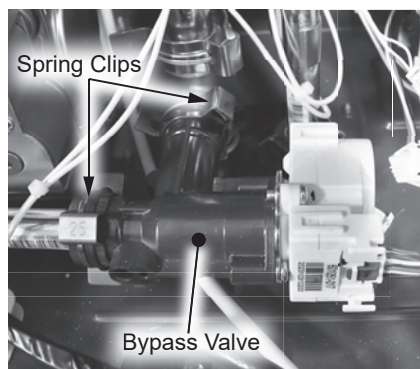

Figure 163 - Bypass valve location
**17** Locate the bypass valve at the bottom front side of the water heater as shown in Figure 163. Disconnect the wiring harness from the valve.
**18** Remove the two (2) spring clips (size 25) securing the bypass valve to the piping system. Remove the bypass valve from pipe connections. Place components aside in a safe place for reinstallation. See Figure 163.